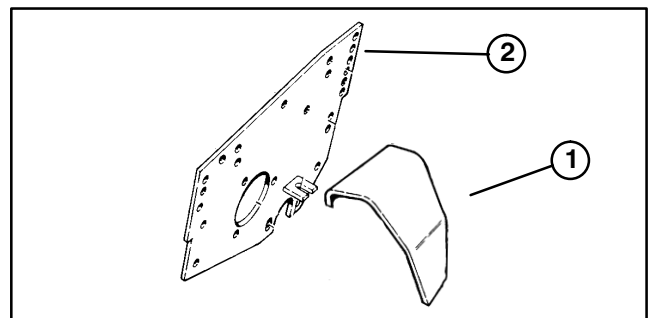

Figure 13
8. Mount a tensioner bracket to left side plate with (2) carriage bolts, washers and locknuts previously removed (Fig. 13).